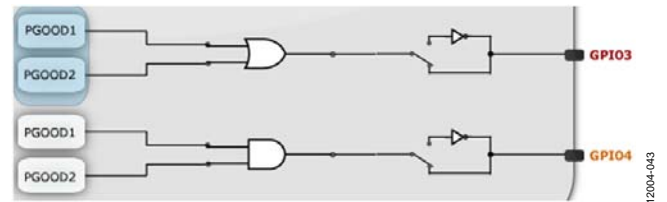

Figure 47. Option 1: GPIO3 and GPIO4 Configured as Regular Signals
- Option 1: Both GPIO3 and GPIO4 are configured as regular signals, as described in the GPIO and PGOOD Signals section (see Figure 47).